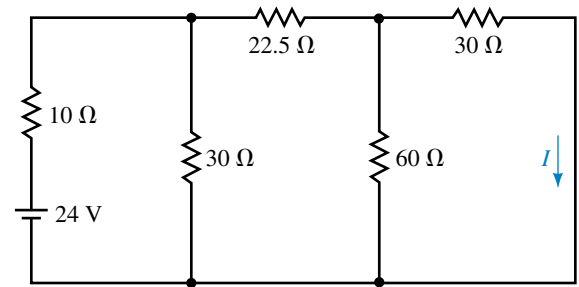

FIGURE 9–108
50. Repeat Problem 49 for the circuit of Figure 9–108.